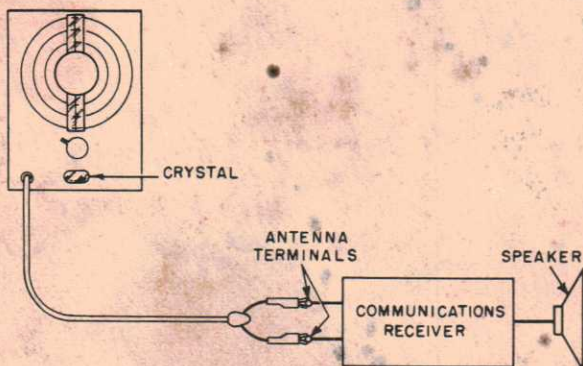

Figure 34. Recommended test setup for alignment of WR-50B
2. Connect the equipment as shown in Figure 34. Plug the 100 Kc crystal into the WR-50B socket. Turn the % MOD switch fully counterclockwise, and the VFO ON/OFF switch to "OFF".